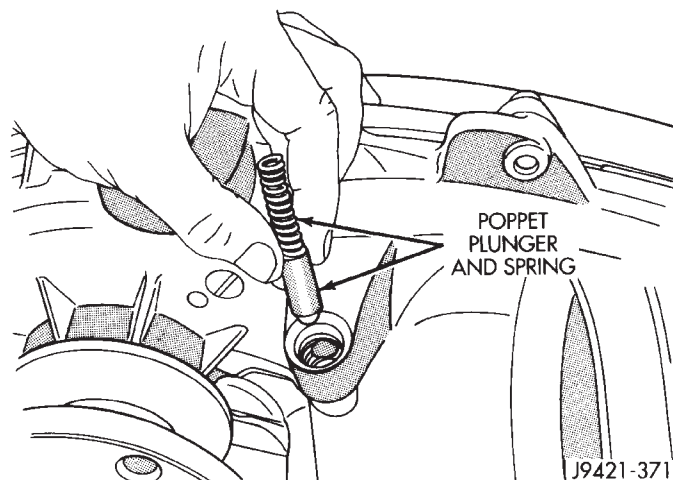

Fig. 87 Poppet Plunger And Spring Installation
(12) Install poppet plunger and spring (Fig. 87).